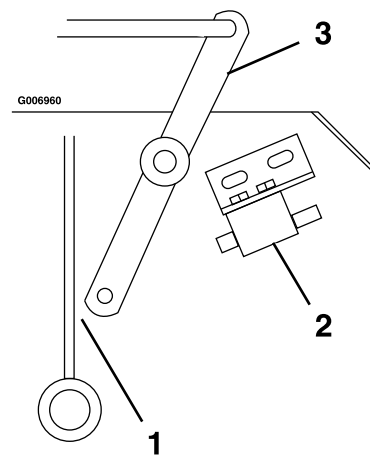
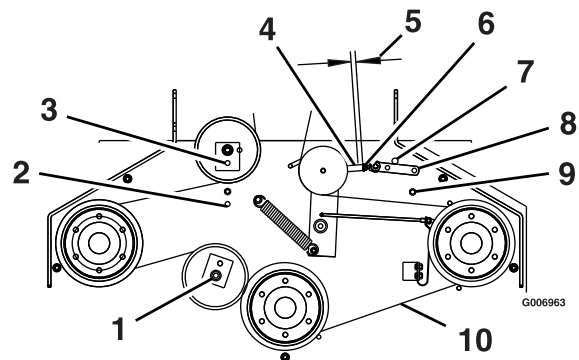

Figure 12
Figure 13
2. With PTO engaged (lever pulled up, adjust the linkage length to where the lower end of the bellcrank just clears the axle support gusset (see Figure 12). Make sure the assist arm is against the rear assist arm stop on the deck (see Figure 13). Push the lever down to the disengaged position. The assist arm should contact the front assist arm stop on the deck. If it does not contact, readjust so that the bellcrank is closer to the gusset.
4. Belt must be tight enough so it does not slip during heavy loads while cutting grass. Over-tensioning will reduce belt and spindle bearing life. To adjust belt tension, loosen the 5/16 inch whizlock nut on turnbuckle and rotate the turn buckle; rotate turnbuckle toward rear of mower to tighten, and toward front of mower to loosen belt tension (see Figure 13).
For 48 inch Decks: If there is no adjustment left in the turnbuckle and the belt is still loose, the rear idler pulley can be repositioned in the front hole (see Figure 13). The belt guide located next to the pulley must also be repositioned in the front hole when the pulley is moved. The turnbuckle will need to be readjusted.
5. Proper belt tension will require about 10 lb (4.5 kg) side pull on belt, halfway between pulleys (see Figure 13, item 10–Point A) to deflect belt 1/2 inch (1.3 cm).